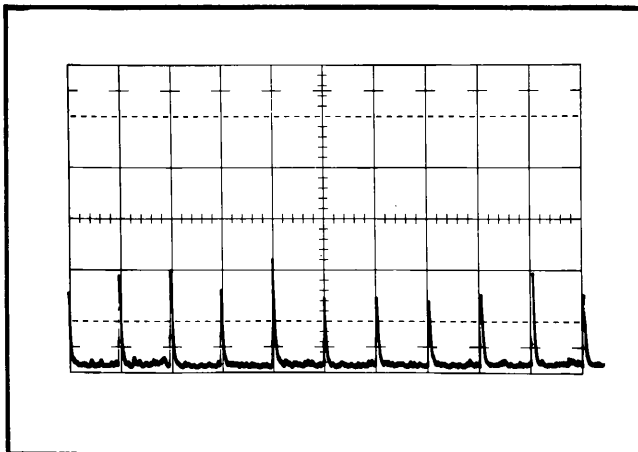

Fig. 2-9. Pulse repetition rate measurement: 50 $\mu\text{s}/\text{CM}$ sweep.
4. Set the Time/CM switch of the oscilloscope to display several pulses of the applied signal (see Fig. 2-9). Be sure the Variable Time/CM control of the oscilloscope is in the Calibrated position.
5. Count the number of lines (pulses) in one or more divisions and use the oscilloscope sweep rate to compute the time between each pulse. In the example of Fig. 2-9, the pulse repetition rate is: